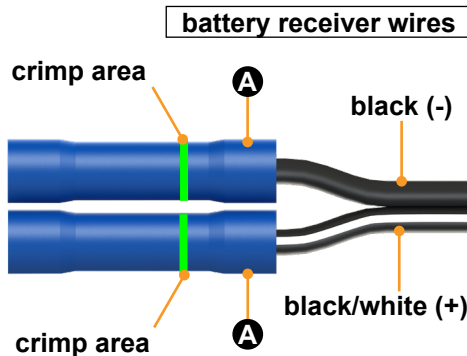

Fig.37
E. Use a crimping tool to crimp each butt connector's metal sleeve (green crimp area) onto the bare wire (Fig.37).